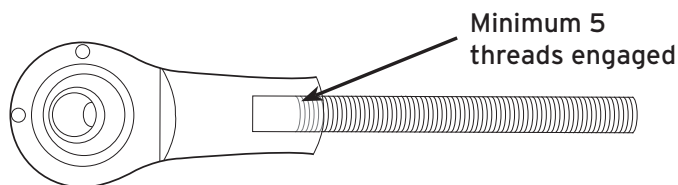

Fig. 12
4. If the linkages do not reach their intended mounting locations, the linkages may be unthreaded from the rod to extend farther. Ensure there are at least 5 threads of engagement on both ends if loosening a linkage to extend the length (Fig. 12).